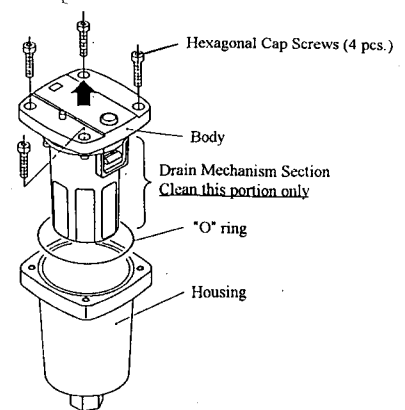

Figure 2 : Disassembling Diagram
(A) Disassemble Method, refer to Figure 2